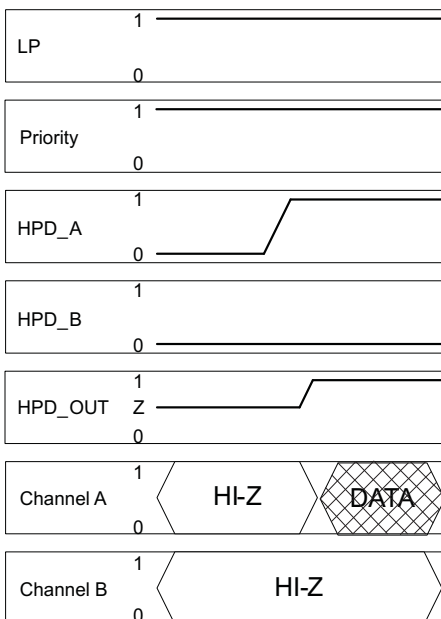

Figure 19.
- Case two: In this case both HPD inputs are initially LOW and the low power pin is HIGH. In this initial state the device is in a low power mode. Once one of the HPD inputs goes to a HIGH state, the device comes out of the low power mode and enters active mode enabling the main link and auxiliary I/O. The port associated with the HPD input that went HIGH is selected and the HPD output to the source is enabled and follows the logic state of the input HPD (see Figure 19). This is specified as  $t_{Z(HPD)}$ . Again, the state of the Priority pin has no effect in this scenario as only one HPD input port is active.